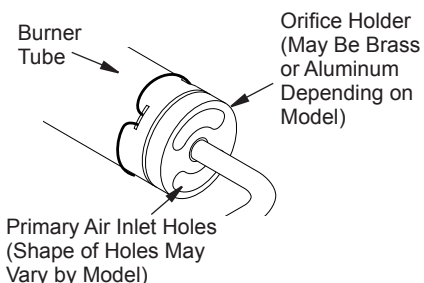

Figure 29 - Orifice Holder On Outlet Burner Tube
2. Inspect burner, pilot and primary air inlet holes on Orifice holder for dust and dirt (see Figures 29 and 30).